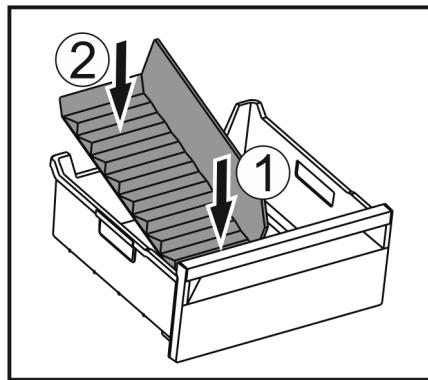

Fig. 140
► Insert the front part of the ice compartment divider. Fig. 140 (1)
► Lower the rear part of the ice compartment divider to the drawer bottom. Fig. 140 (2)